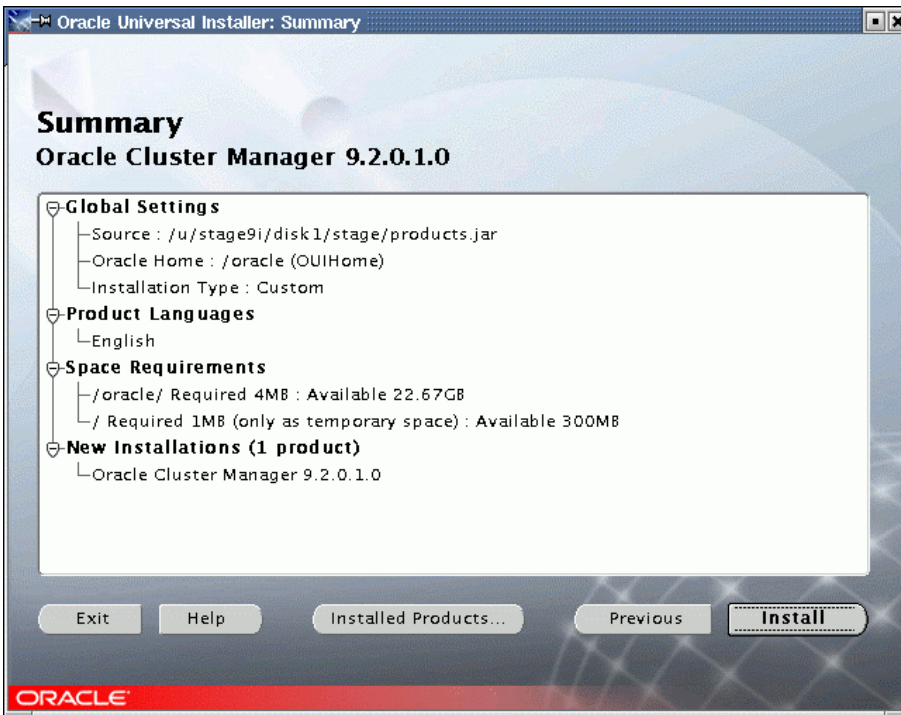

Figure 37. Summary
- The summary screen, shown in Figure 37, is displayed. Click **Install** to start the installation.